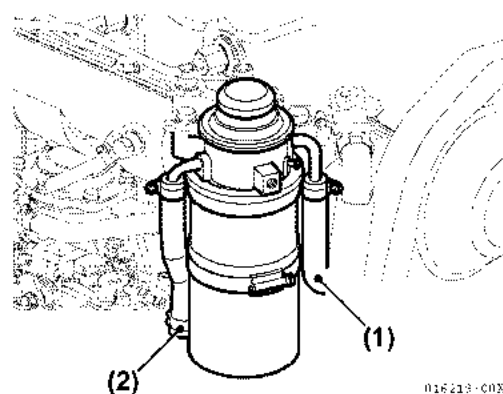

Figure 6-6
2. Disconnect the fuel hose from the fuel fine filter inlet (Figure 6-6, (1)).
6. Repeat procedure at the outlet end of the fuel fine filter (Figure 6-6, (2)).